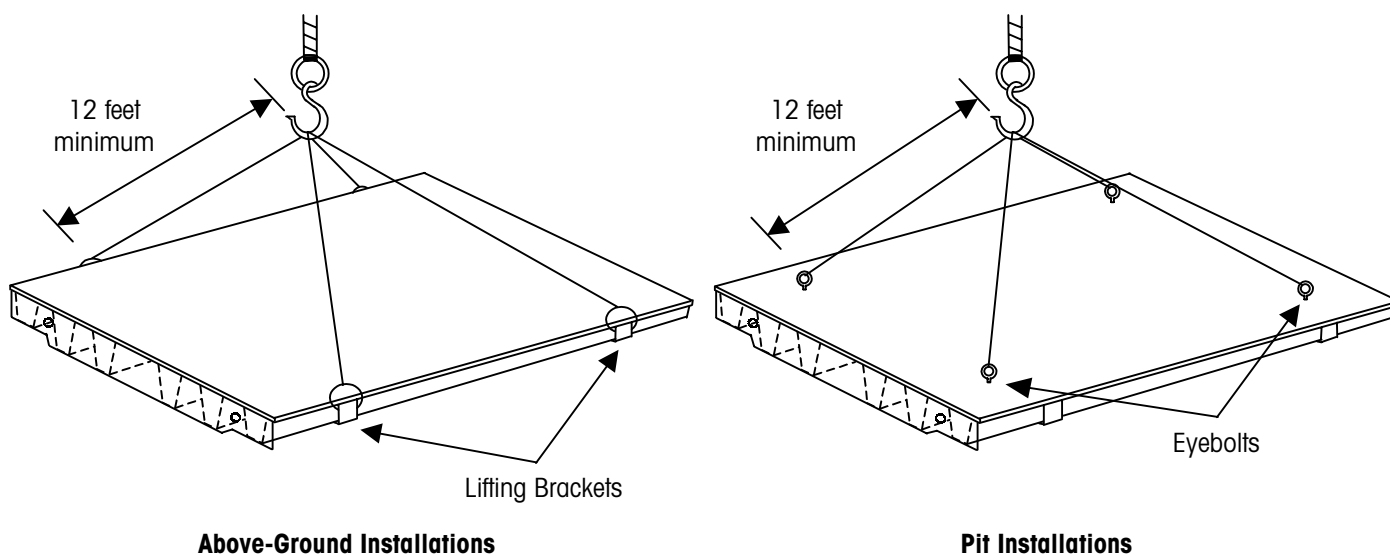

Figure 3-1: Module Lifting Procedure
If a METTLER TOLEDO truck is delivering the 7461 truck scale, the METTLER TOLEDO driver will handle and supervise unloading. Otherwise, unload the modules by lifting them with a quadlift chain as shown in Figure 3-1.
- Lift the module as shown in Figure 3-1. Position the module so that the end with the end receiver plates faces the approach wall. The first module should be reasonably square with the end wall and spaced away from the end wall as shown in the assembly drawing (approximately 3/4 inch).